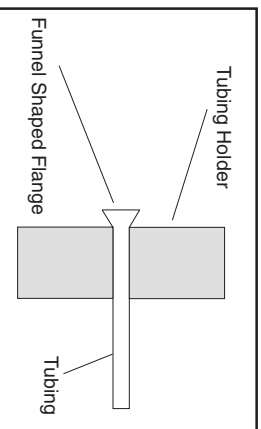

Figure 4
4. Remove the heating iron and tip from the tubing. As the flange cools, it will form the shape of a funnel (Figure 4).